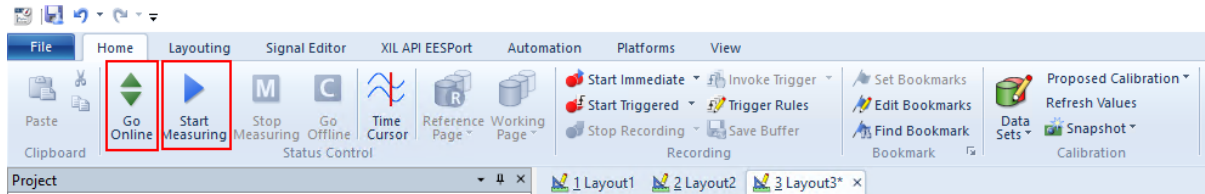
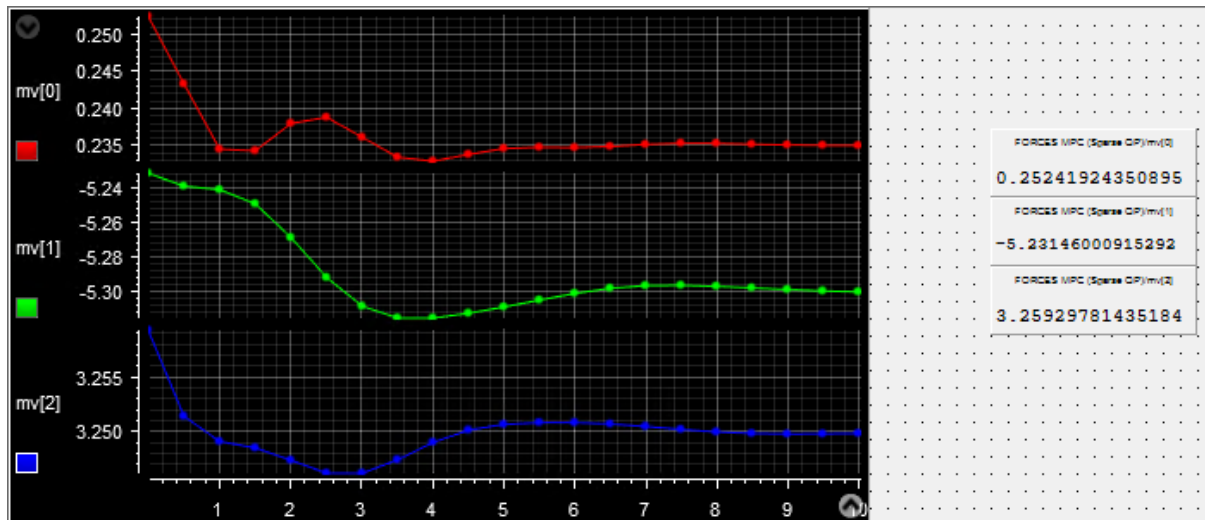

Figure 5.21: Buttons Go Online and Start Measuring to receive execution results
Figure 5.22: Plots and results from experiment on dSPACE MicroAutoBox II
- 16) Select Go Online and Start Measuring to see the results. (see Figure 5.21 and Figure 5.22).